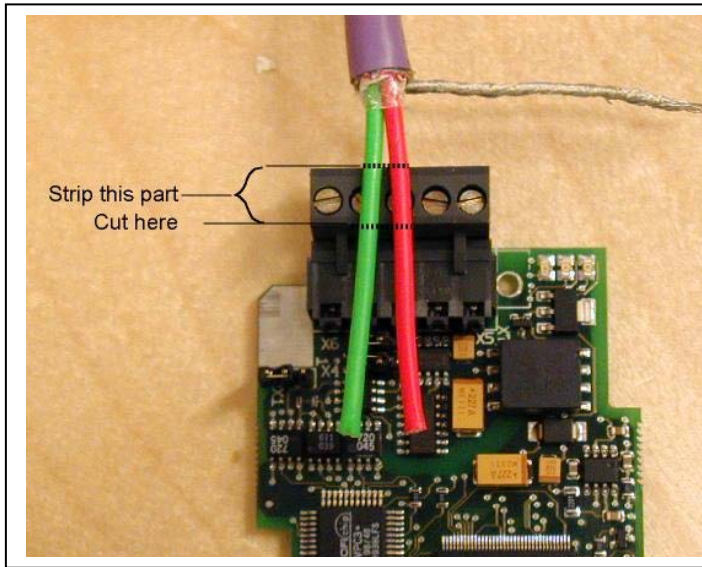

Figure 4-7.
- 3 Insert the data cables of **both CanOpen cables** into terminals #2 and #4. See Figure 4-7.